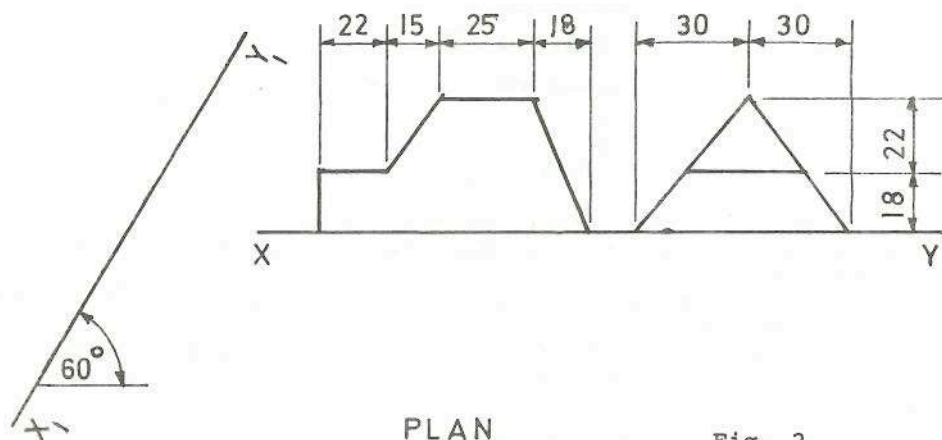

Fig. 2
2. The elevation and end-elevation of a cut triangular prism are given in Fig. 2.